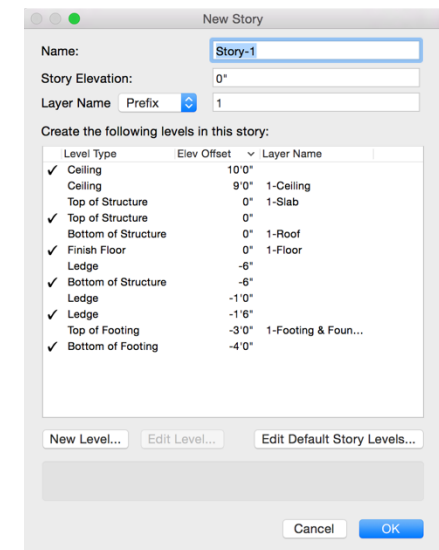

Fig. 7 Include levels and layers in story
Step 2 Choose **New** in the lower left side of the Organization Palette. In the **New Story** dialog we'll make some choices as to which levels and the associated layers will be included in this story. (*Do you recognize this list as the Default Story Levels?*) (Fig. 7)
(Refer to Fig. 7)